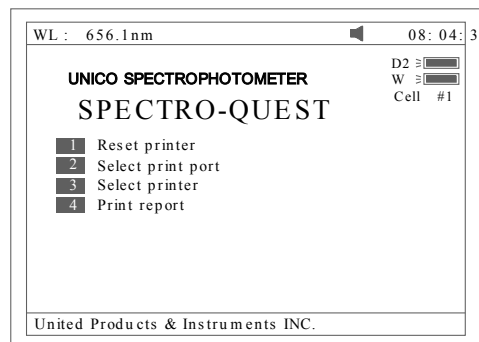
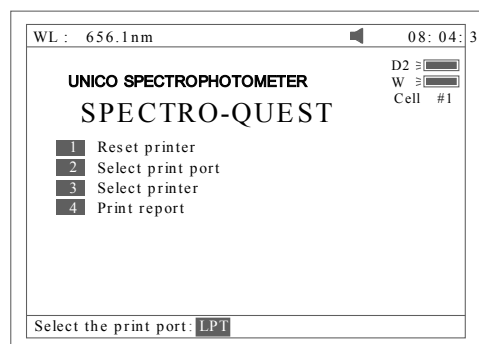
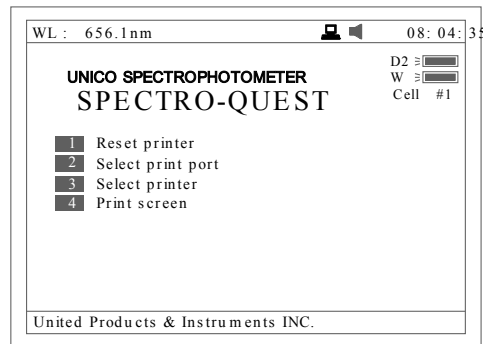

Fig 75
Fig 76
Fig 78
Press **[2]** to set printer (Fig 75). **[ESC/STOP]** to exit.
1. Press **[1]** in Fig 75 to Reset Printer.
2. Press **[2]** in Fig 75 to select print port (LPT or Comm., Fig 76).
3. Press **[3]** in Fig 75 to select printer (HP PCL (1 color cartridge), PCL
4. Press **[4]** in **Fig 75** to select print mode. If you select “Print screen” mode, a little icon will be displayed on the top line of the screen (Fig 78), if you select “Print report” mode, the little icon will disappear.